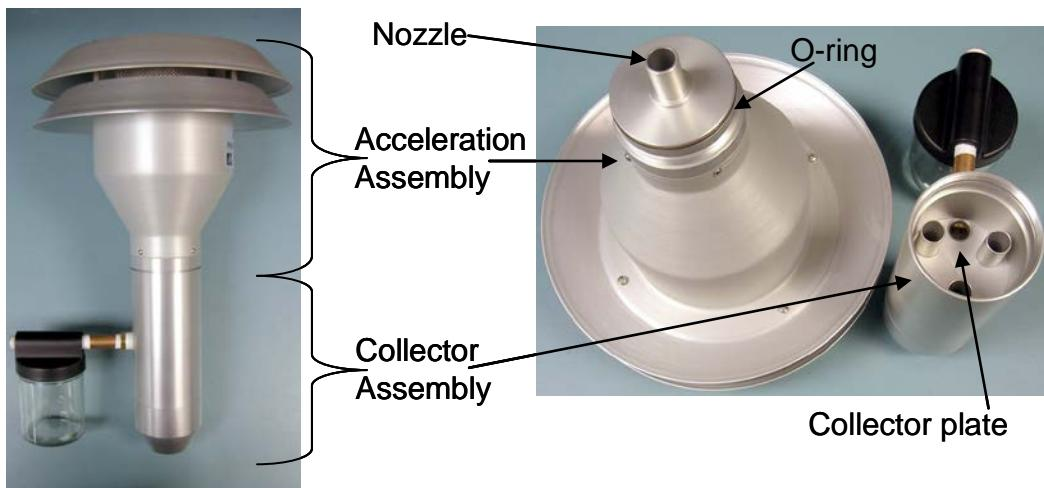

Figure 8: Diagram of PM10 head inlet components (Vaughn, 2009)
2. Unscrew the collector assembly from the acceleration assembly as shown Figure 8.